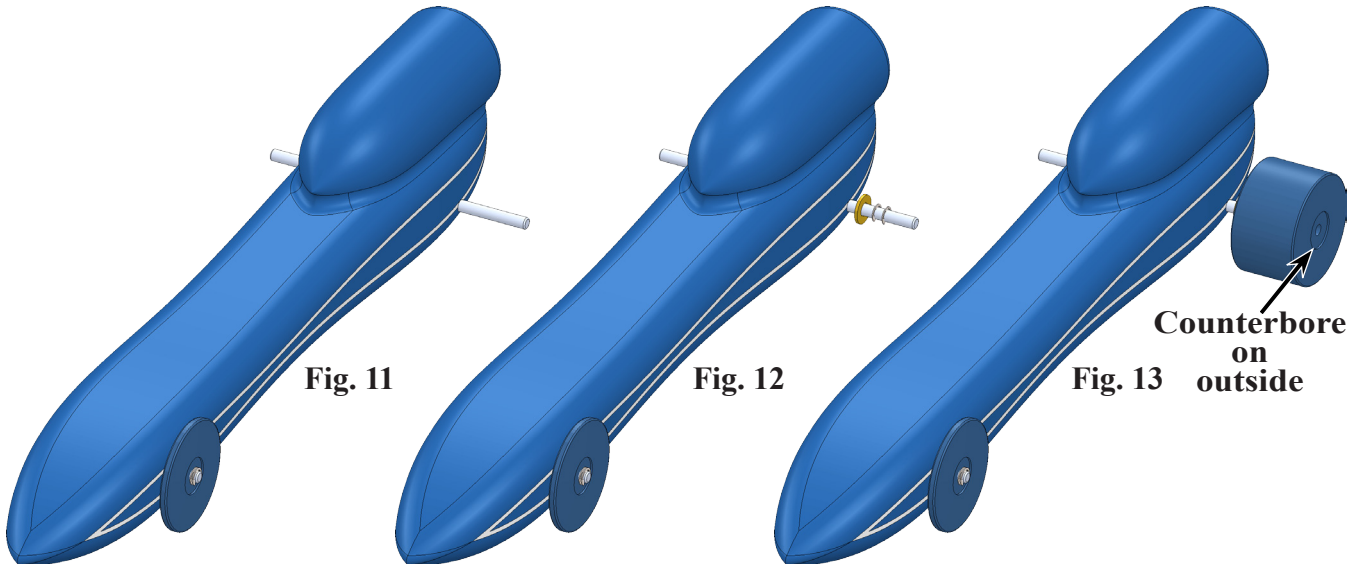

Fig. 10
Step 17. If necessary, flip Wheel so counterbore is on outside, use **Flip Mate Alignment**  in Mate pop-up and Add/Finish Mate in Mate pop-up toolbar to add a **Concentric** mate, **Fig. 10**.
Step 18. Click Zoom to Fit  (F) on the View toolbar.
Step 19. Repeat, Browse and place at Rear Axle hole **REAR AXLE, WASHER, 2 E-CLIPS** and **REAR WHEEL**, **Fig. 11-13**. If necessary, flip Wheel counterbore to outside, use **Flip Mate Alignment**  in Mate pop-up, **Fig. 10**.